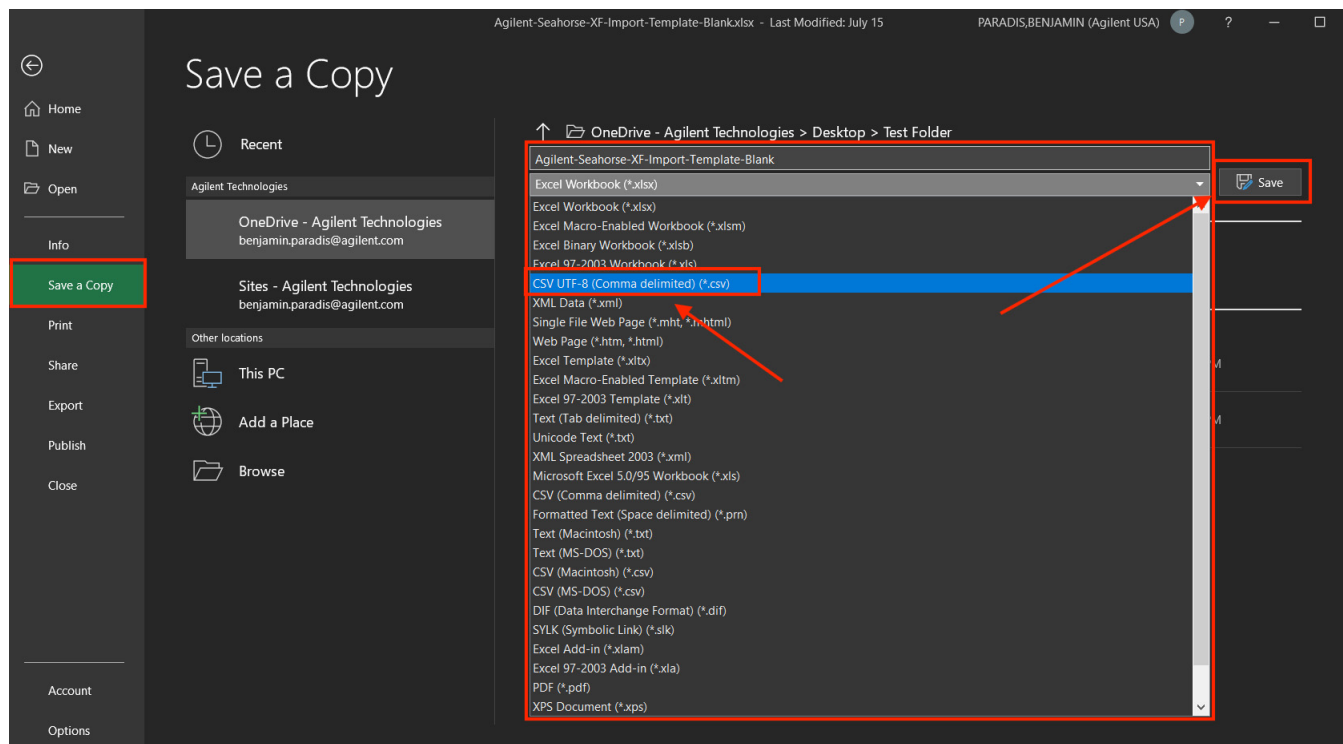

Figure 33. Save the Excel file as a CSV file.
- 12 Save a copy of the Excel file as a comma delimited (CSV) file (Figure 33), then close the Excel CSV file before importing to Wave Pro or XF Pro.